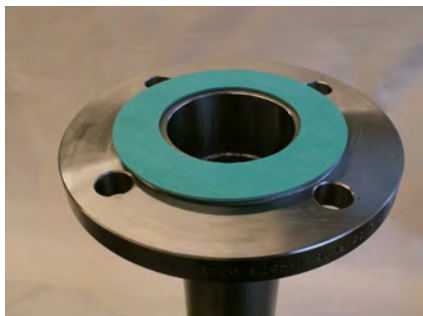

Fig. 10: Pipe connection with flange seal
- ⇒ The pipe line is now ready for assembly (Fig. 10)